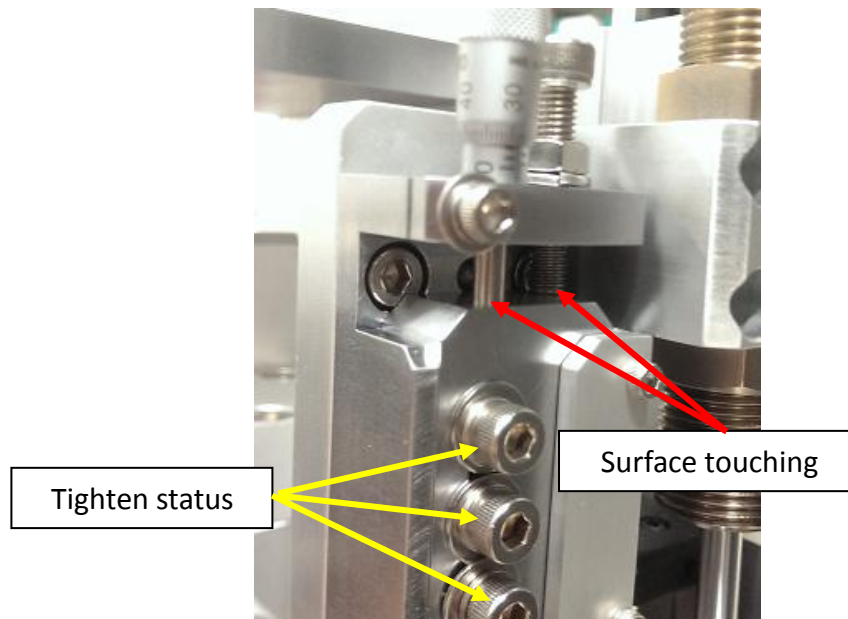

Figure 18 Low Mag hard stop
22. With tube cylinder **Up** position, hand tight the Hard Stop Support Screw and Nut. Ensure the screw is touching the Hard Stop Block surface as Figure 18.